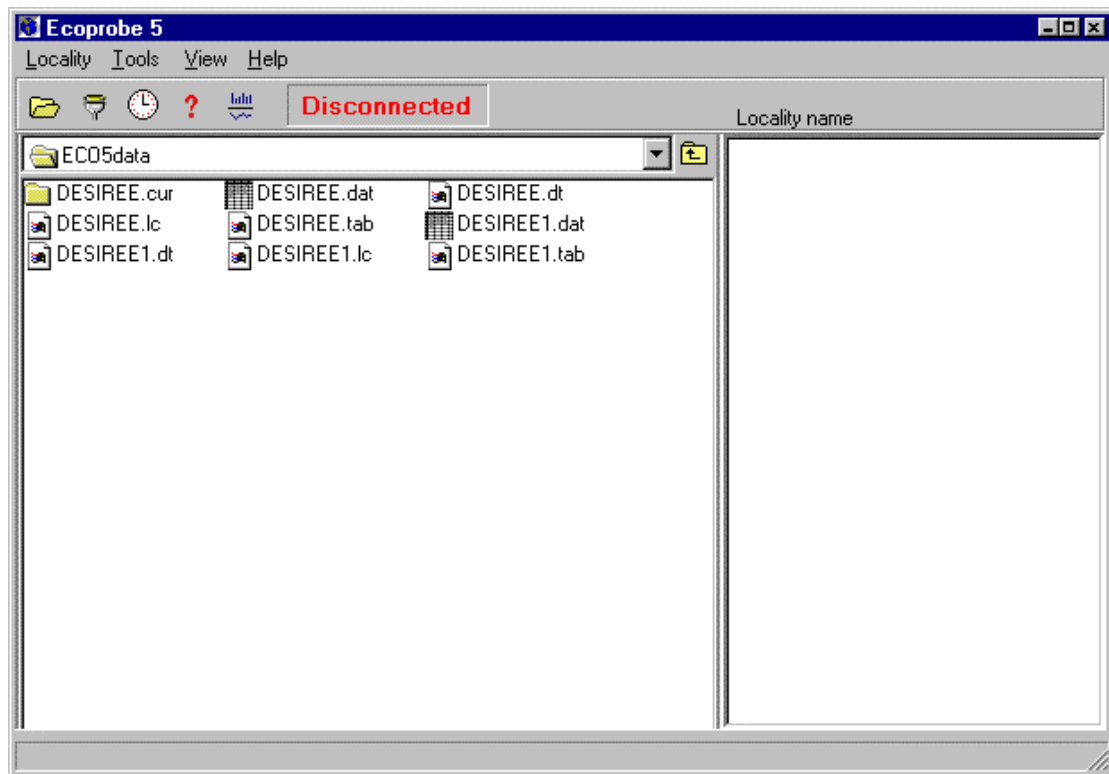

Figure1: Main Menu.
- Access the Main Menu (Figure 1) by starting the Communication Program.